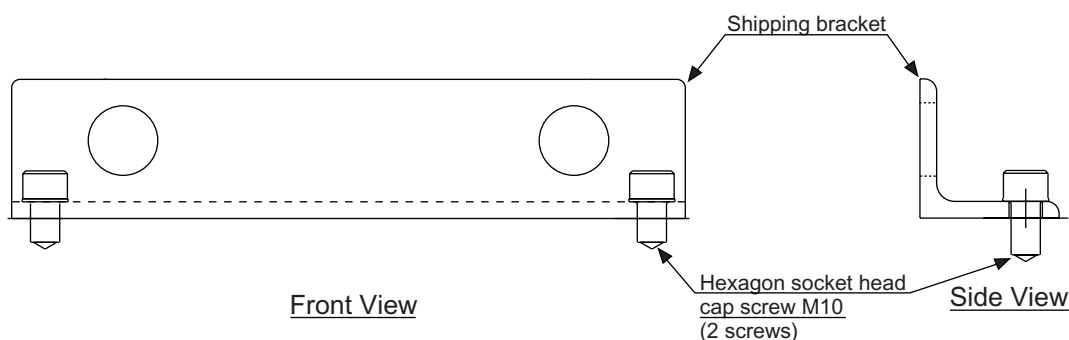

Fig. 4 Shipping Bolts and Brackets
- **Before turning on the power, check to be sure that the shipping bolts and brackets explained in "Fig. 4 Shipping Bolts and Brackets" are removed.**
Fix the manipulator base onto the baseplate with the hexagon socket head cap screws M16 (mm). The plate is tapped for M16 (length: 50mm) screws. Tighten the screws and anchor bolts securely so that they will not work loose during operation. See “Fig. 4 Mounting the Manipulator Baseplate” for the method.